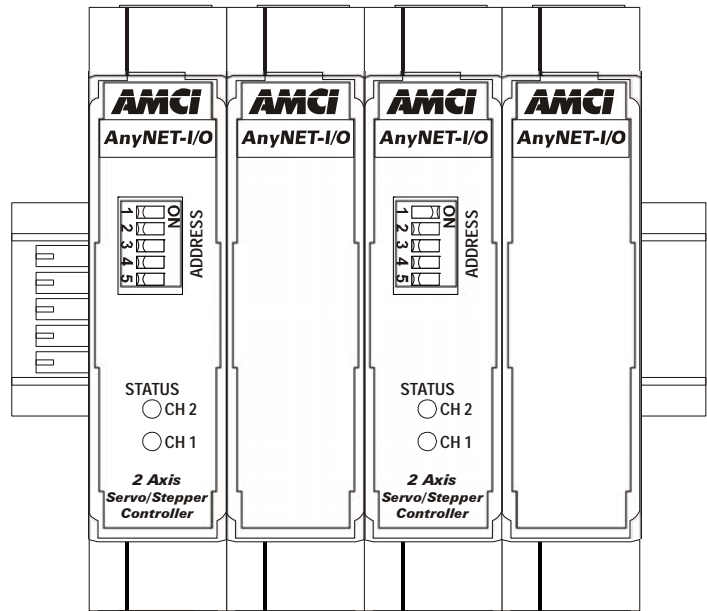

Figure R1.2 Status LED's
The front panels of two IANF2(E) modules are shown in figure R1.2. The clear front cover that covers the address switches and status LED's is hinged on the bottom. It swings down, and allows you to change the module's address in the AnyNET-I/O Stack with the address switches. The front panel also has the Status LED's, which give you information on the state of the module.
The AnyNET-I/O platform allows you to connect up to six modules to a single network connection in what is called an AnyNET-I/O Stack. The DIP switch behind the front panel cover is used to set the address of the module within the AnyNET-I/O Stack. The first module acts as the network interface and must have an address of zero. This address is set by having all of the DIP switches in their OFF position. (If you are using a single module, then it must have an address of zero.) The remaining modules in the Stack should have their addresses set to their position in the stack by setting the corresponding DIP switch to its ON position. Figure R1.2 shows the correct addressing for two modules. The module on the left is an IANF2E and has its address set to zero. The remaining module can be either an IANF2 or IANF2E module and its address is set to one